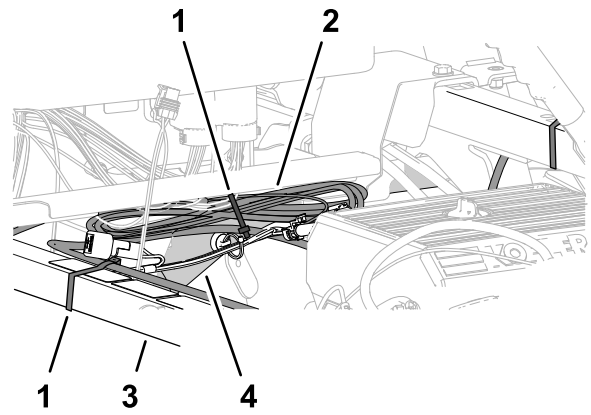

Figure 244
2. Align the data harness to the shock-support tube, and secure the harness to the tube with a cable tie (Figure 244).
3. Align the data-harness bundle to the right, upper-frame tube, and secure the harness bundle to the frame tube with a cable tie (Figure 244).
1. Gather the excess length of the data harness against the right, upper-frame tube (Figure 244).